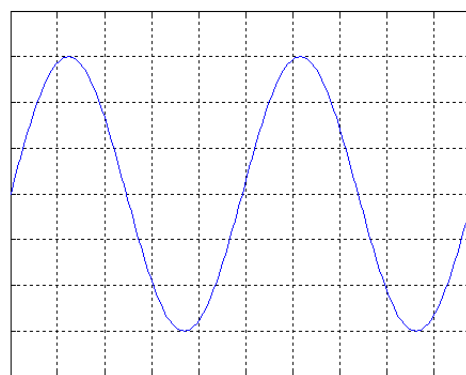

Figure 1.3: Example Waveform as Seen on oscilloscope
In figure 1.3 a series of grid lines in both the horizontal and vertical directions can be seen. Each one of the grid lines makes a 'division' on the screen. For example this waveform has 6 vertical 'divisions' from its top peak to its bottom peak. Comparing either the two of the lower peaks or two of the upper peaks, it can be seen that there are approximately 5 horizontal 'divisions' between them.
1. If figure 1.3 has a VOLTS/DIV of .5V, what would the Peak to Peak voltage be?